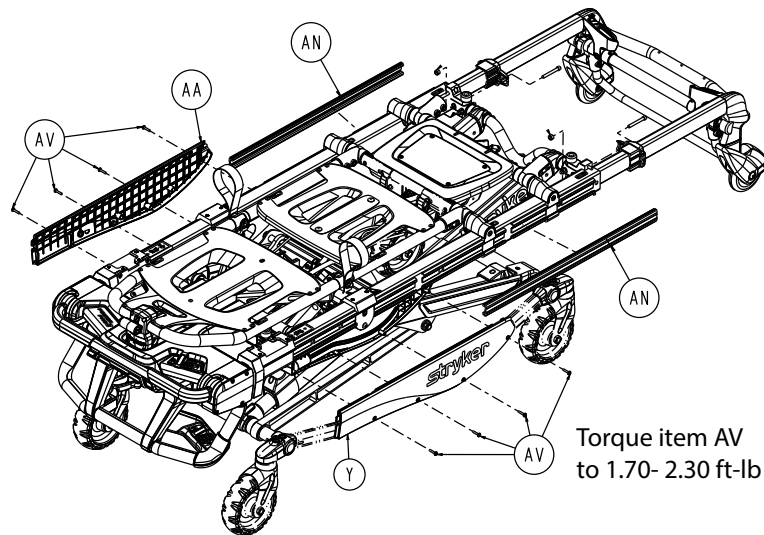

Figure 47 – Remove the screws and slider block cover
4. Using a T25 Torx driver, remove the four round washer head tapping screws (AV) and slider block cover (Y or AA) on the side where you are replacing the siderail (Figure 47). Save the screws and slider block cover.
5. Using a slotted screwdriver, remove the outer rail bumper (AN) (Figure 47). Save the outer rail bumper.